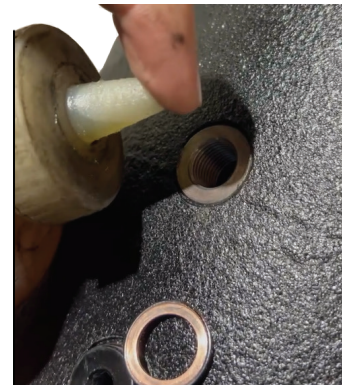

Figure 13
14. To fill, use 5-EP 85W-140 gear oil. Place the oil dispenser into the top port and fill until oil begins to run out of the bottom port [Figure 13].